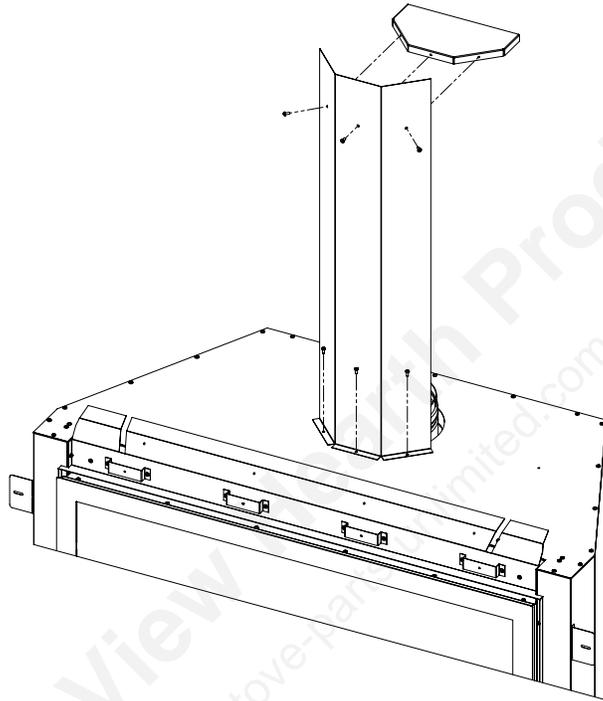

Figure 43: Vent Shields
All vent configurations require installation of the vertical vent heat shield. Remove the three (3) T-20 screws from their respective locations and use to secure the shield in position (see Figure 43).
The horizontal vent heat shield is only required for minimum vertical rise vent configurations. Use three (3) supplied T-20 screws to secure it to the vertical vent heat shield (see Figure 43).